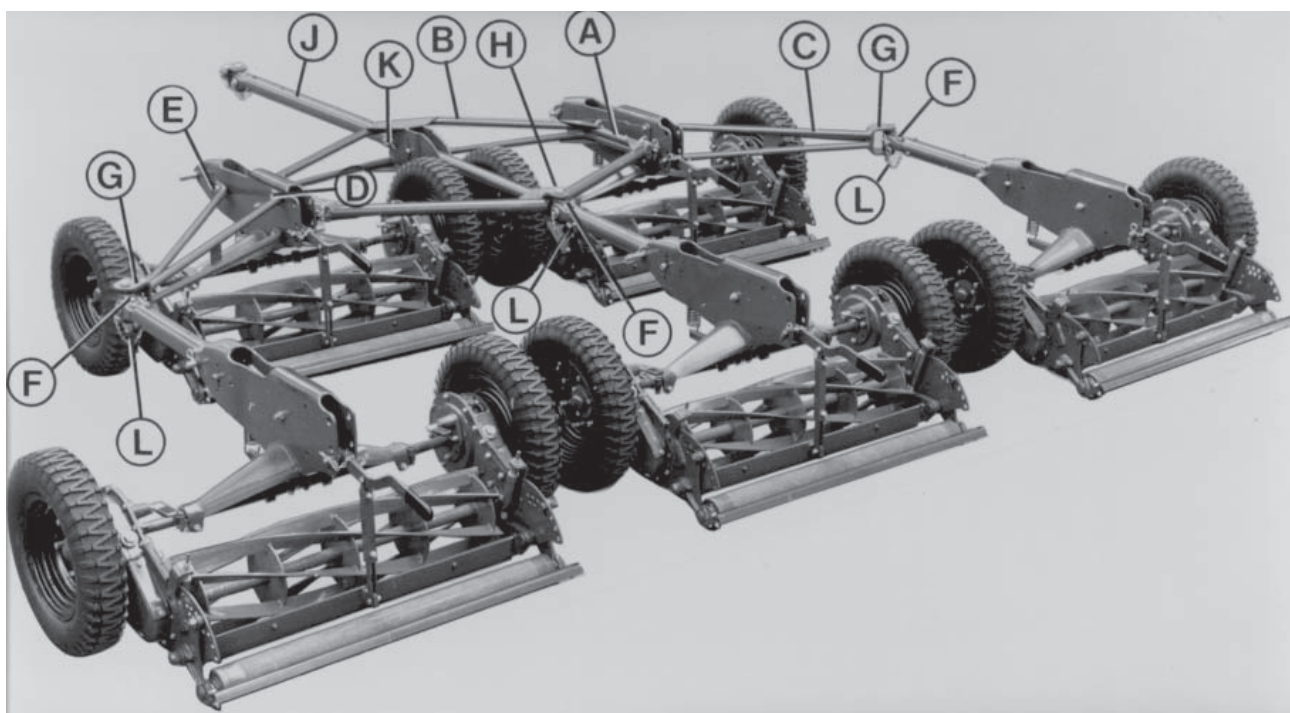

Fig 10
2. (Fig. 10). Place the two units without drawbars side by side. Remove the hinge plates (A) from the twin coupling frame (B). Bolt an extension wing (C) and a hinge plate to each unit. The extension wings are fitted to the outer sides of the unit frames and the hinge plates on the inner sides. Long bolts (D) are used on the two rear positions to secure the extension wing and hinge plate to the unit frame. Two short bolts (E) are used to secure the front of the extension wing and hinge plate.
4. (Fig. 10). With the lubricating nipples on top insert the long drawbar (J) into the front of the twin coupling frame. The slot fits over a distance piece which is already in position. Insert the pin (K) and secure with the spring clips.
5. (Fig. 10). From the three short drawbars remove the universal couplings (F). Bolt two couplings into the towing points on the extension wings and the other into the towing point at the rear of the twin coupling frame. Couple the three rear units to the towing points on the extension wings and centre of the twin coupling frame, ensuring that the chains (L) hang below the drawbars.